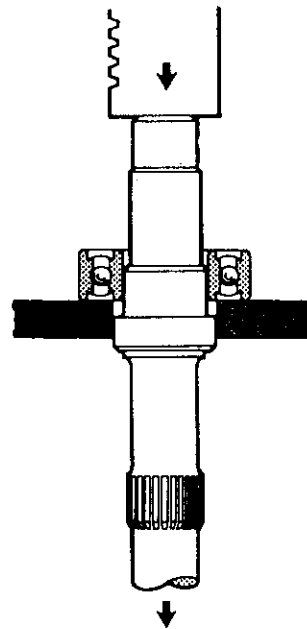

Figure 4.10
17. Support drive shaft bearing in arbor and press out shaft from bearing as shown in Figure 4.10.